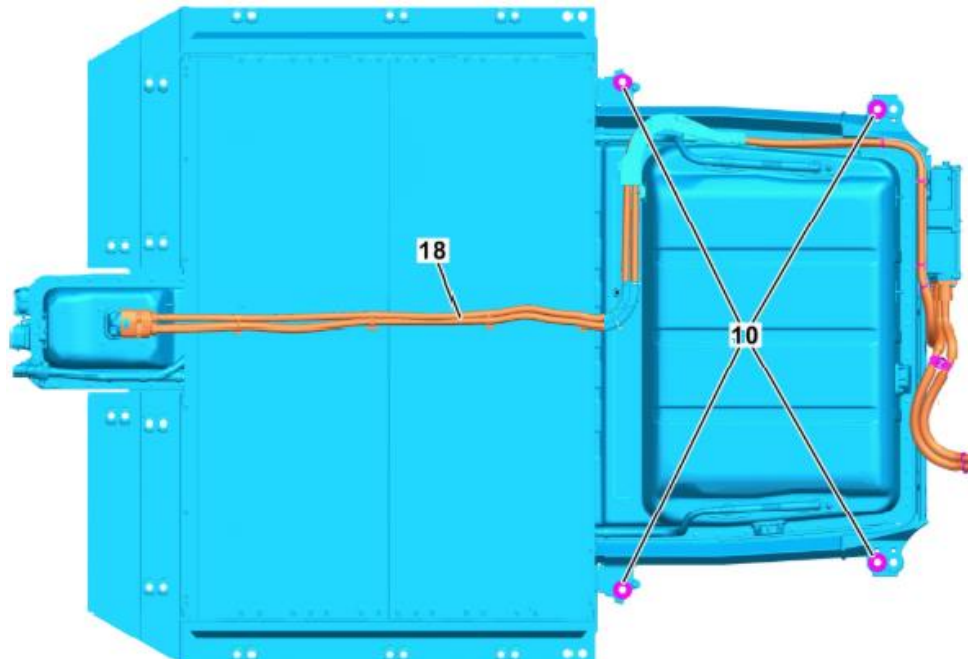

Figure 5
21. Remove **compensating elements (Figure 5, 10)** – *Single-use fastener, must be replaced.*
22. Remove HV harness (Figure 5, 18) from HV battery (with code M0005 4MATIC)